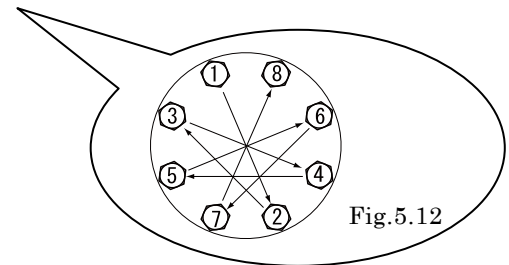

Fig.5.12
- Tighten the bolts gradually in a diagonal sequence with even torque. (cf. Fig. 5.12)